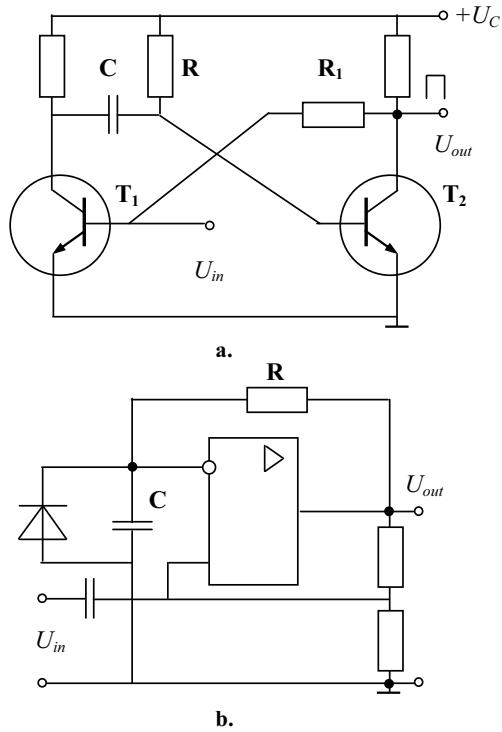

Fig. 2.57
**Monostables.** When a pulse of a determined or variable width is required, a *monostable* circuit is used. Fig. 2.57,a shows a monostable (*single-shot, one-shot circuit*). It generates the only pulse after switching on, and to continue operation, an input signal must enter the circuit. The pulse width of the single-short output signal is determined by **R** and **C** values.
The one-shot shown in Fig. 2.57,b has the same principle of operation. The diode connected across the capacitor provides the state mode of the monostable because the negative output  $U_{out}$  cannot recharge the capacitor. The input signal  $U_{in}$  is required to continue the operation.